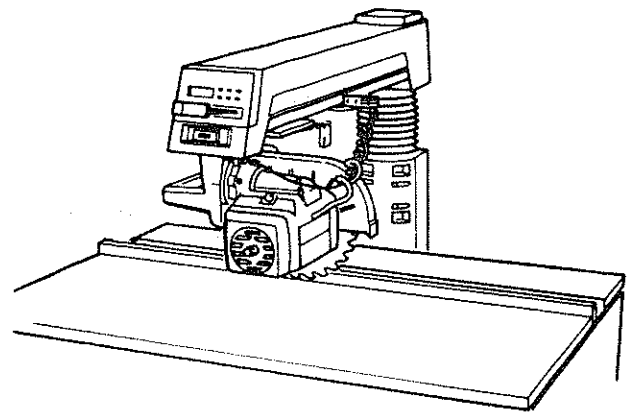

Fig. 126 - In-rip Position
5. Unlock the *swivel lock* and turn the *motor* to the in-rip position, with the *blade* between the *motor* and the *fence*. (Figure 126)